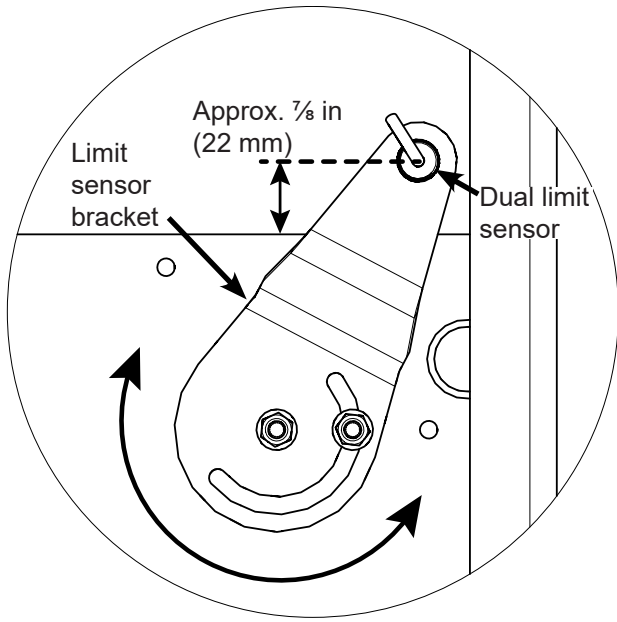

Figure 10. Set Limit Sensor Height
2. Set the height of the dual limit sensor $\frac{7}{8}$ in (22 mm) above the bottom of the rail opening (Figure 10).